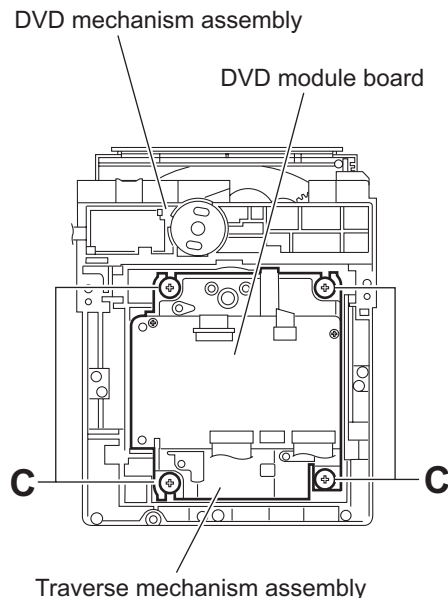

Fig.3
3.2.3 Removing the traverse mechanism assembly (See Figs.3)